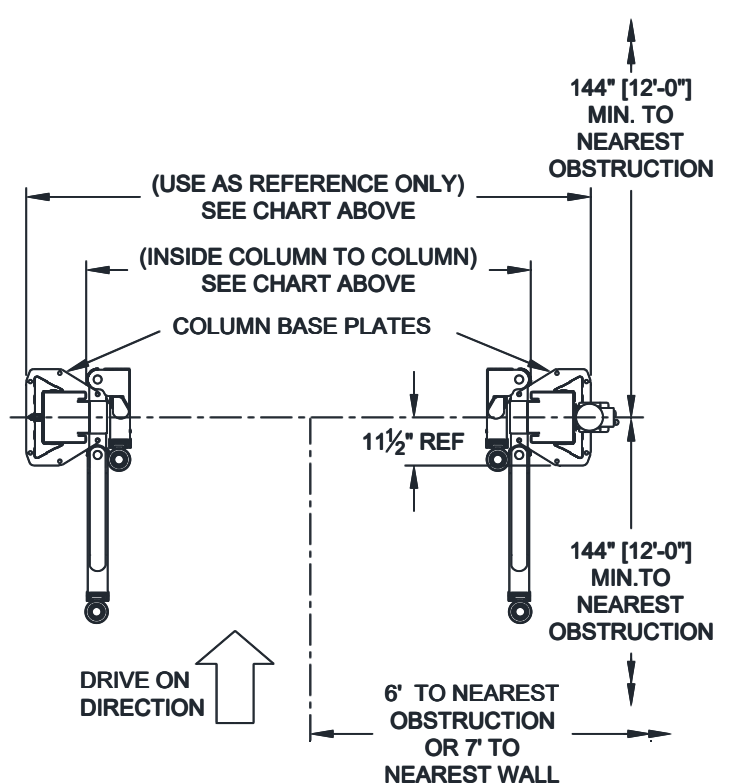

Fig 1b - Service Bay Layout
- 5) Layout the service bay according to the architect's plans or owners instructions (see Fig 1b). Failure to install in this orientation can result in personal and property damage. Be certain that the proper conditions exist, see page 3.